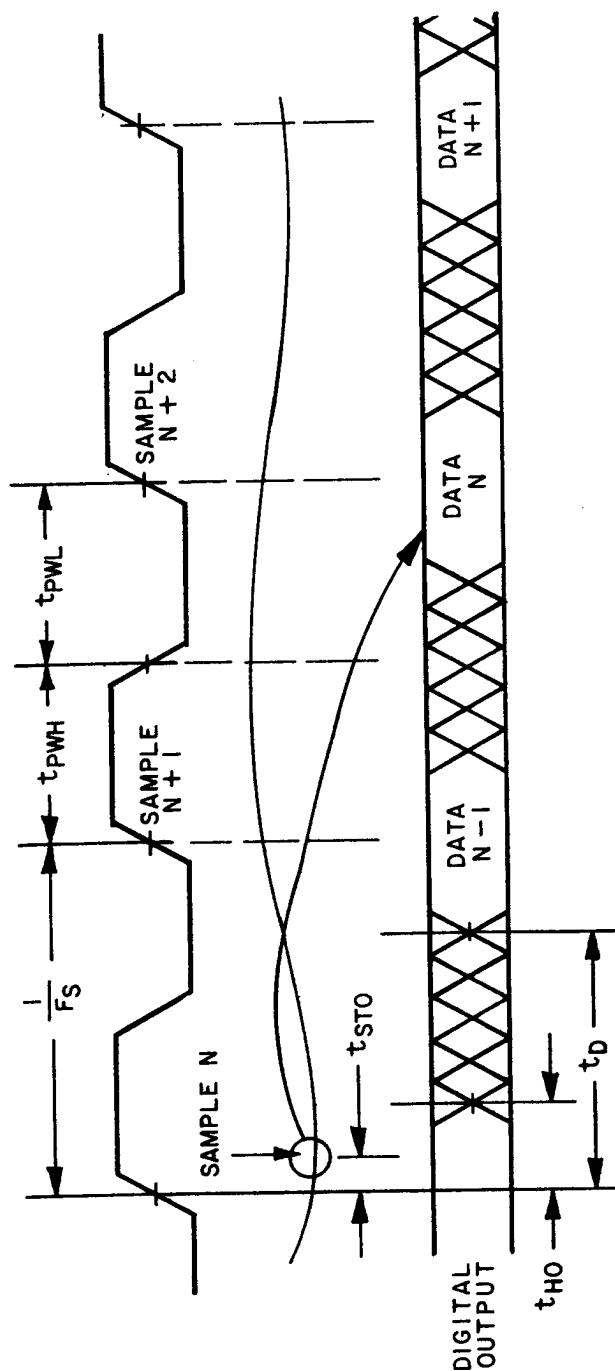

FIGURE 4. Timing diagram.
3.2.4 Timing diagram. The timing diagram shall be as specified in figure 4.